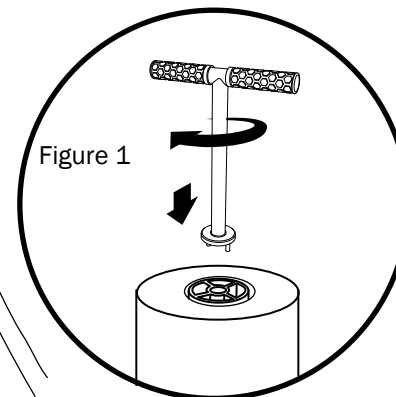

Figure 1
2. Place base of Mounting Plate(A) on top of Upper Post #5 and secure with Bolt(D). See *figure 1*.
1. Use "T" Tool, turn clockwise to Tighten all Upper Posts to Lower Posts. See *Figure 1*.
3. Place Post Caps(A) on top of Posts #1, #2, #3, #4 and #7. Insert Bolts(B), into treaded inserts on Posts and Tighten.